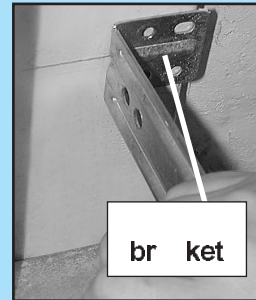

FIG. 3-2
- Center bracket on your mark (Fig. 3-2).